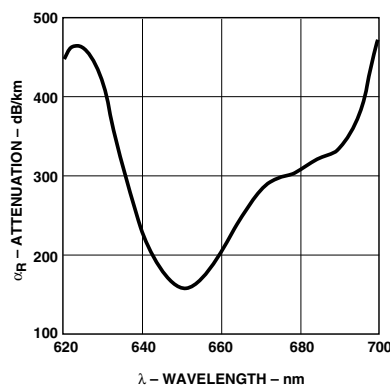

Figure 1. Typical POF attenuation vs. wavelength.
| Reference Attenuation | Standard Cable, Type "R" | α_R | 0.12 | 0.19 | 0.24 | dB/m Source is 650 nm, 0.5 NA monochromator, $\mathcal{R}=50$ meters Note 7, Figure 1 |
7. Note that α_R rises at the rate of about 0.0067 dB/ $^\circ\text{C}$, where the thermal rise refers to the LED temperature changes above 25°C . Please refer to Figure 1 which shows the typical plastic optical fiber attenuation versus wavelength at 25°C .